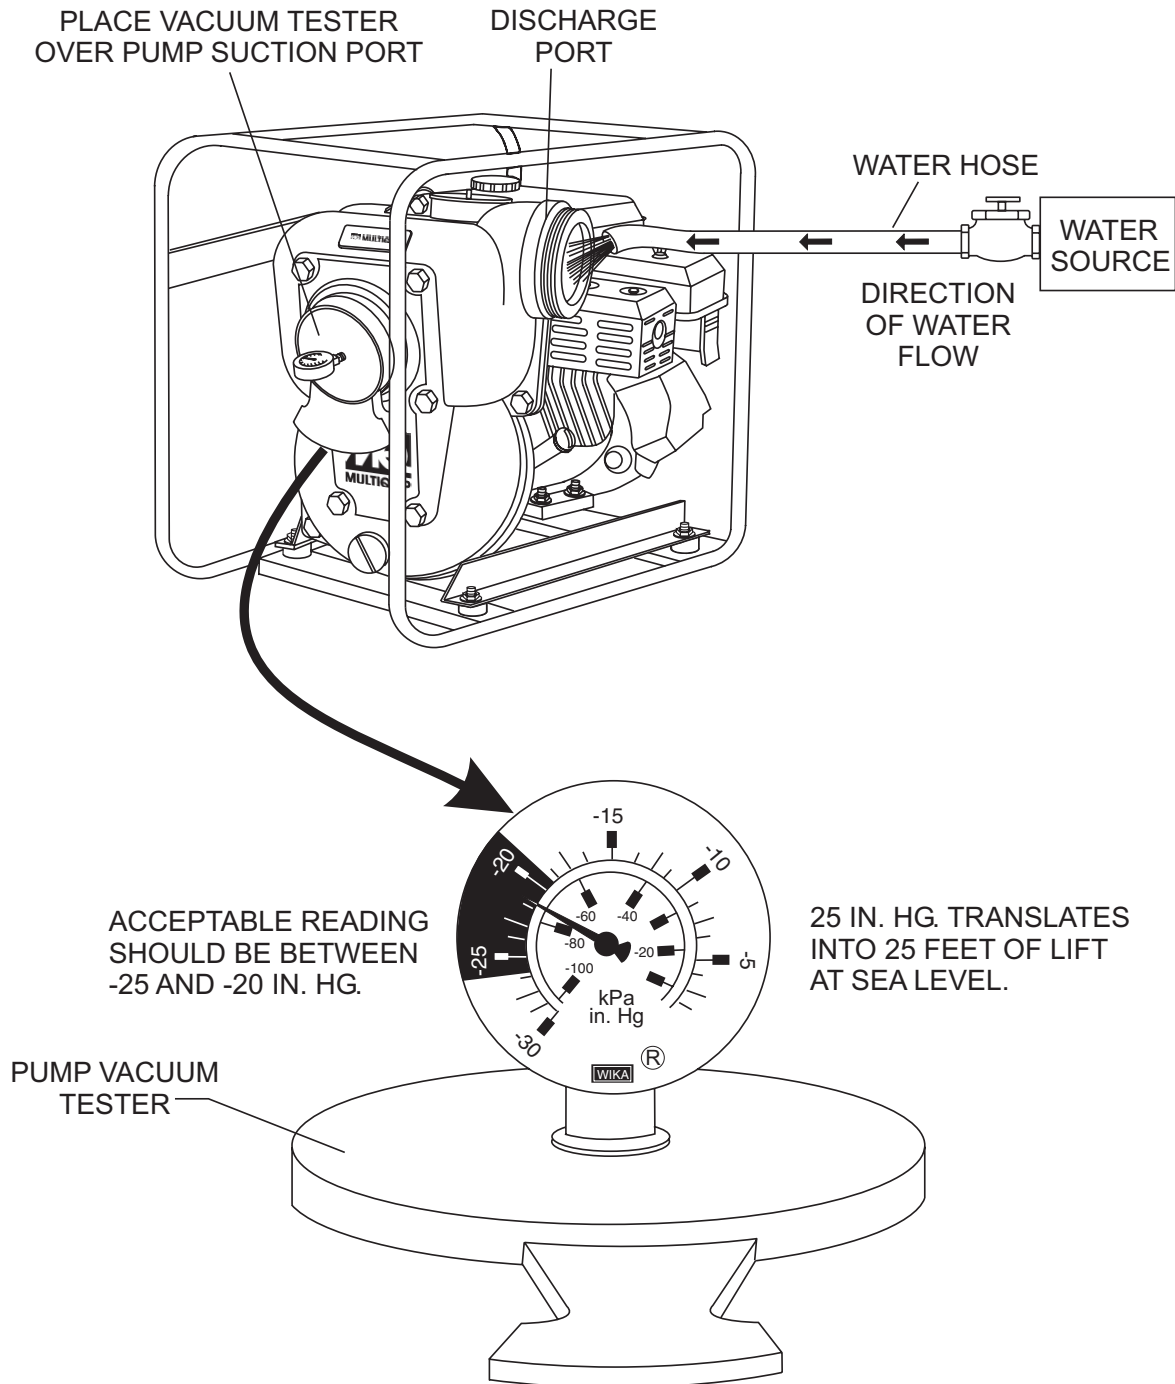

Figure 18. Pump Vacuum Tester
3. As shown in Figure 18 (next page), place a water hose inside the discharge opening of the pump, and turn on the water. This flow of water into the discharge opening will **prevent** the pump from running dry.